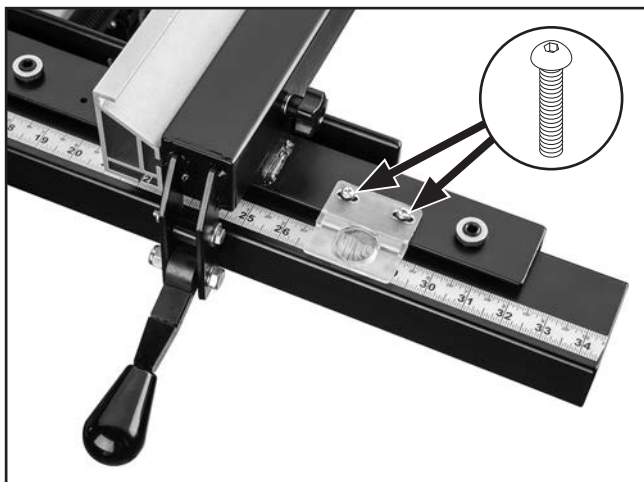

Figure 17. Example of rail tape aligned with scale pointer.
- If you need to correct position of indicator line, loosen Phillips head screws on pointer window, adjust pointer window so line is over "0" mark on tape (see **Figure 17**), then tighten screws.